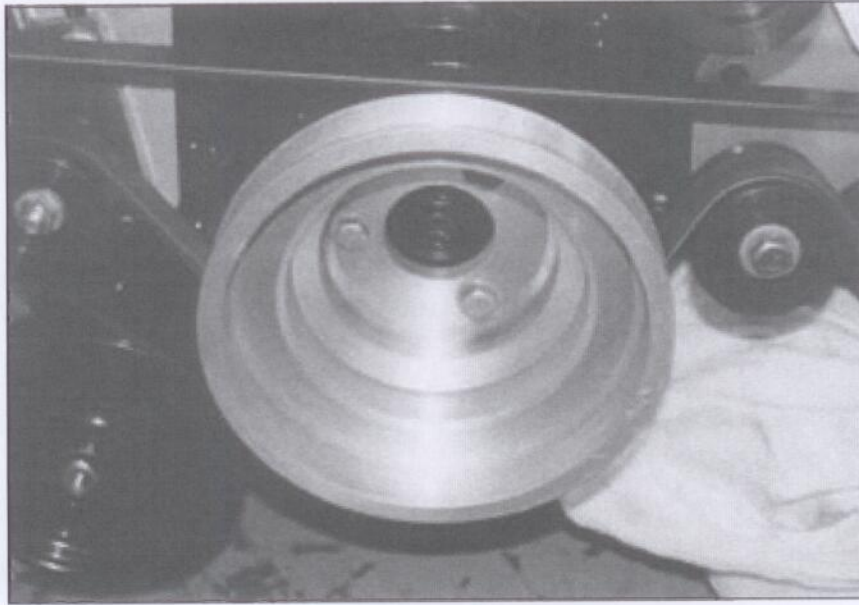

FIGURE B2
10. Install the supplied crankshaft pulley using the supplied 3/8" x 1.5" bolts with lock washers as shown in Figure B2.